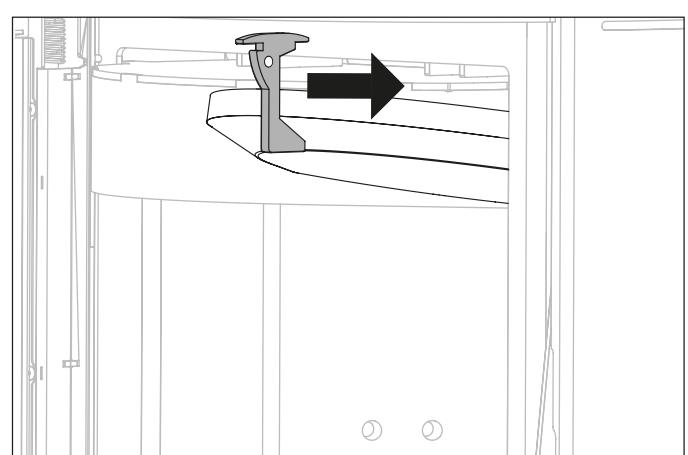

Fig. 39
- Slide the firebrick retainer forward (Fig. 39).